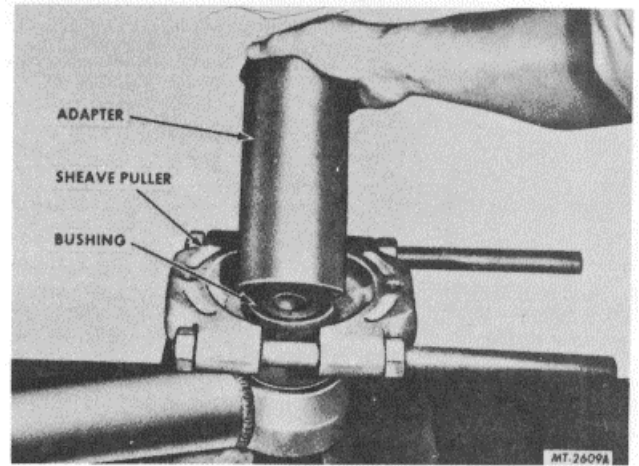

Fig. 12 Preparing to Press Bushing into Torque Rod
3. Place adapter over end of bushing, resting on sheave puller. (See Fig. 12.) Press bushing into torque rod until bushing is centered in bushing bore.